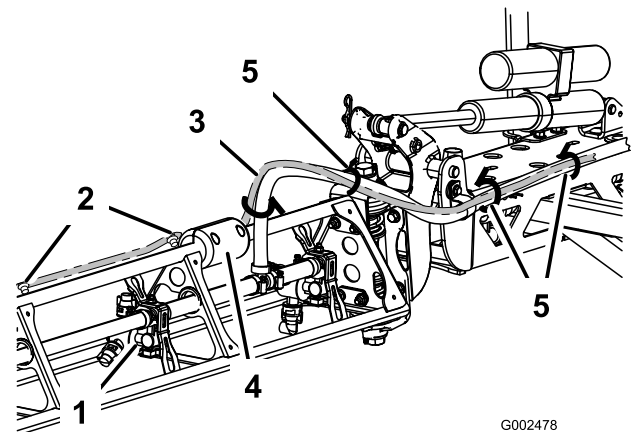

Figure 4
6. Route the sensor wire along the top of the boom support to the slide block (Figure 4). Secure it to the top of the boom using clips provided.
assembly. Secure the wire harness to the boom hose with the cable ties (Figure 4).